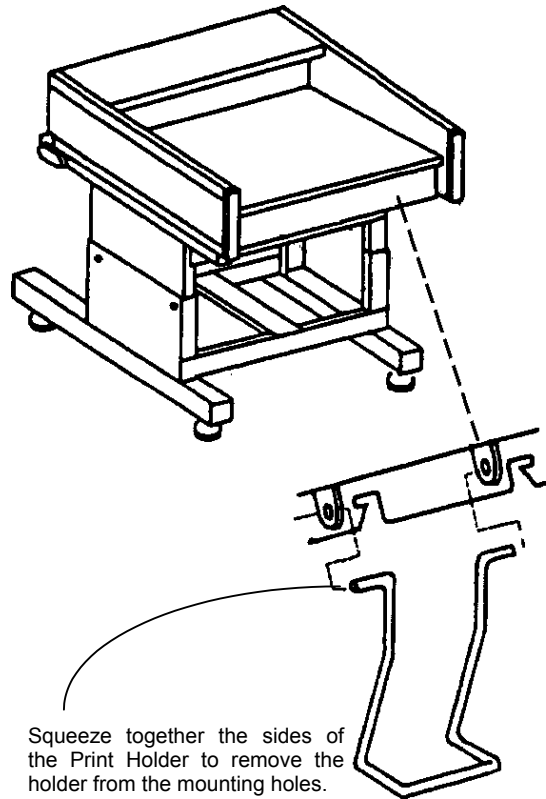

Figure 1. Removal of the Print Holders
4. (Figure 1): Remove the four Print Holders. Wrap the holders in bubble pack and place on top of the Stacker.